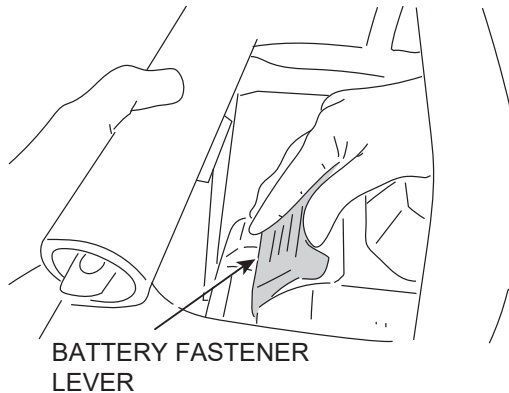

Figure 6. Battery Fastener Lever
3. Push down the battery pack and hook the battery fastener to it (Figure 6).